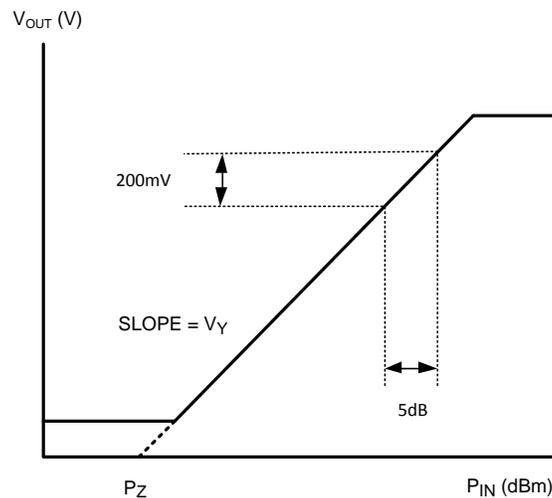

Figure 70.  $V_{OUT}$  vs. RF Input Power  $P_{IN}$
- $V_Y$  is the slope of the detection curve (Figure 70)
- (5)
A further understanding of the equation above can be achieved via the knowledge that the output voltage  $V_{OUT}$  of the LMV225/LMV228 is linear in dB, or proportional to the input power  $P_{IN}$  in dBm. As discussed earlier, CDMA has a modulation in the order of 5 to 6 dB. Since the transfer is linear in dB, the output voltage  $V_{OUT}$  will vary linearly over about 5 to 6 dB in the curve (Figure 70).